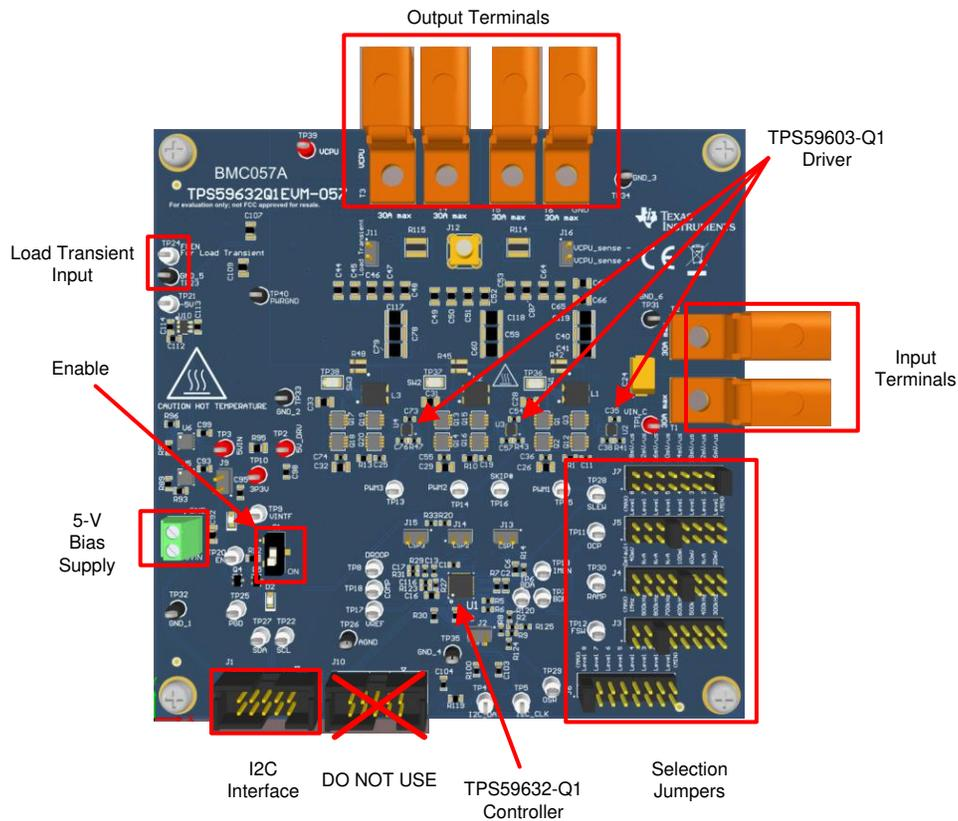

Figure 3. EVM Options
2. Connect the USB-TO-GPIO adaptor at the I/O port of the EVM (as indicated by the "I²C Interface" port shown in Figure 3) using the supplied ribbon cable.